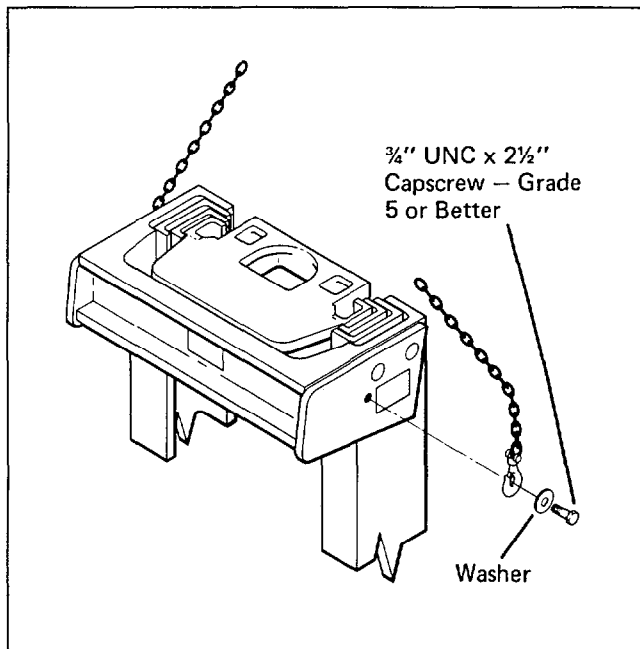

Figure 3-1 Lifting Procedure
1. Secure the mast to an overhead crane using the lifting technique outlined in sub-section 1-12, steps 1 and 2. See figure 3-1.
1. Thread a $3/4''$ UNC x $2-1/2''$ capscrew (grade 5 or better) with a large flatwasher into the hole on each side of the mast as shown in figure 3-1.